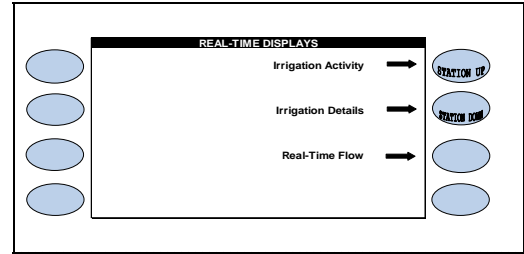

Figure 6.13
The REAL-TIME DISPLAYS screen is displayed (Figure 6.13)
1.  Press the **LIVE SCREENS** Menu key to access the REAL-TIME DISPLAYS screen (Figure 6.13)
1. Press the **LIVE SCREENS** Menu key to access the REAL-TIME DISPLAYS screen (Figure 6.13)